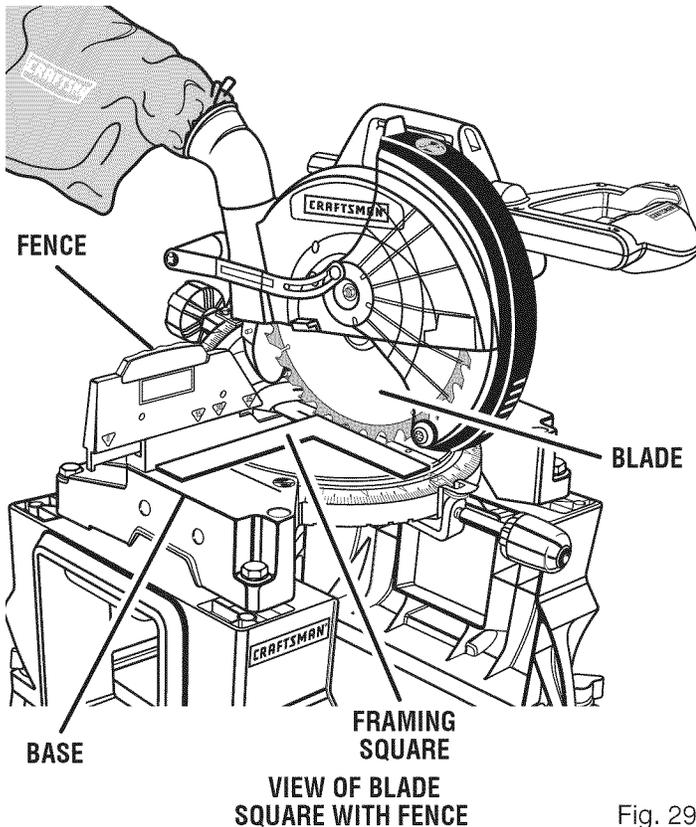

Fig. 29
See Figures 29 - 32.
- The edge of the square and the blade should be parallel as shown in figure 29.